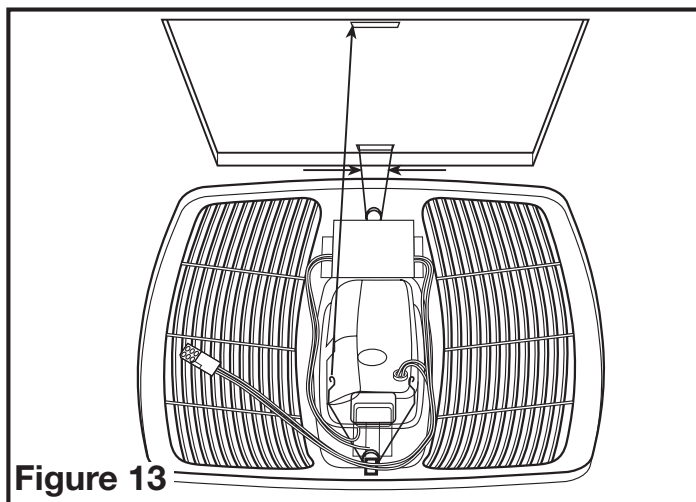

Figure 13
5. Install the grill by squeezing the springs together and installing it up into the slot furthest from the wire compartment on the fan's housing. Attach the 6 pin quick connect from the grill to the 6 pin connector on the top of the wire cover. The cord will only fit one way into the receptacle. Install the other spring and push the grill up into position. (**Figure 13**).